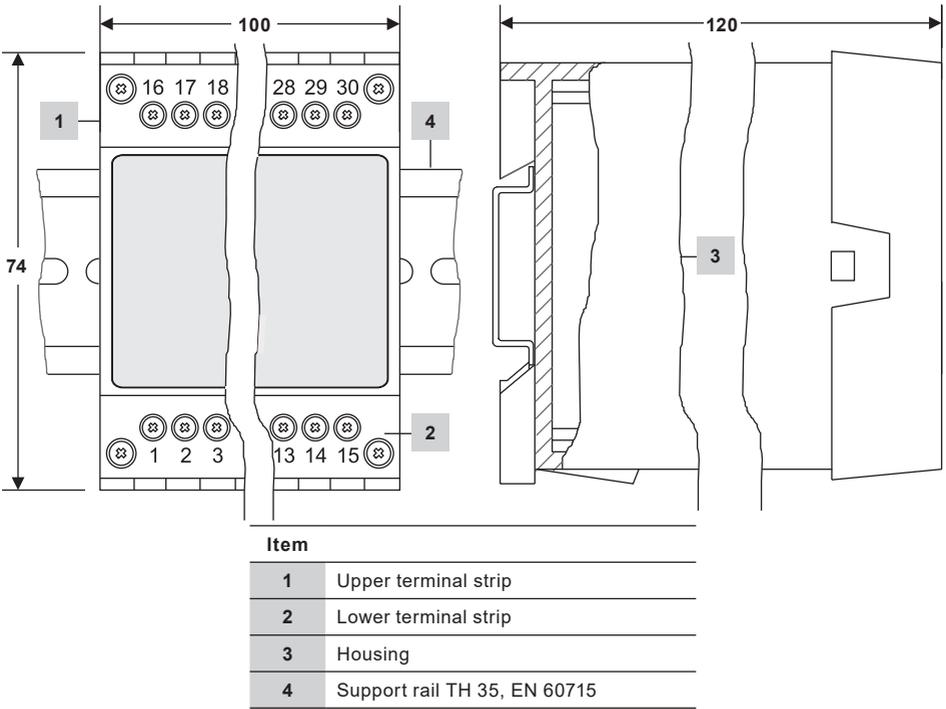

Fig. 1
The level controller LCR2652 is clipped onto the support rail type TH 35, EN 60715 in the control cabinet. Fig. 1, item 4